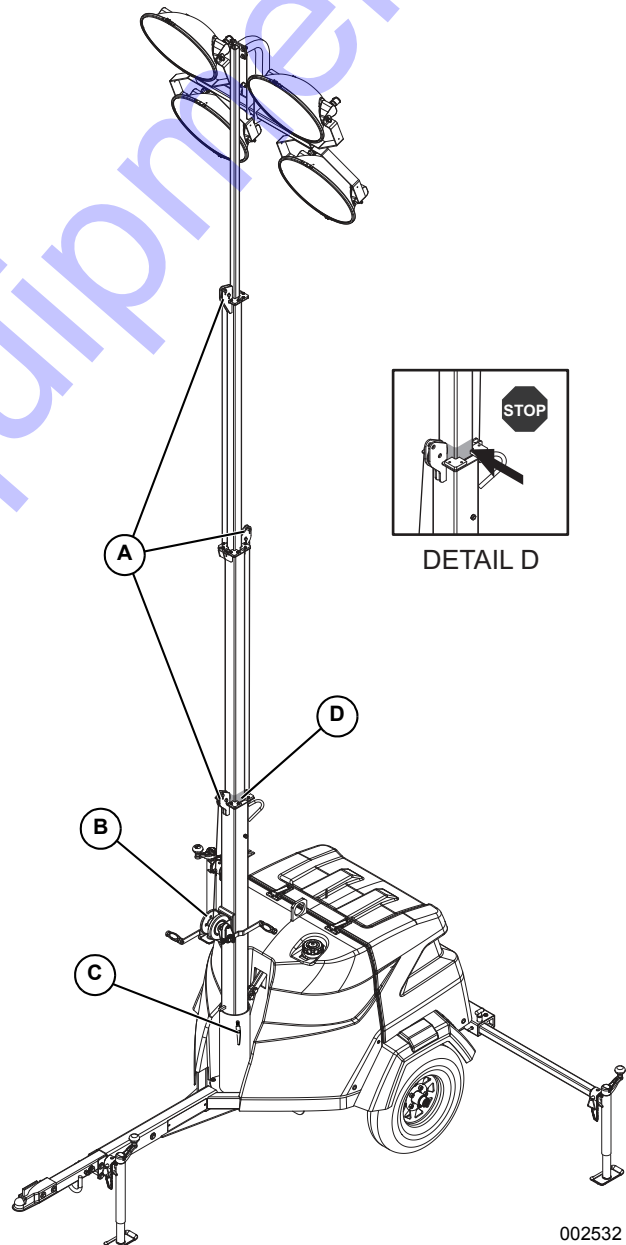

Figure 3-2. Pulley Locations - Manual Winch
2. See Figure 3-2. Inspect the mast cables for excessive wear or damage. Verify the cables are properly centered in each pulley (A). Inspect the electrical cord for damage.
3. Rotate the mast by loosening the mast rotation knob (C) at the bottom of the mast. Turn the mast until the lights face in the desired direction. Tighten the mast rotation knob to secure the mast in position.
4. Using both hands, rotate the winch (B) to slowly extend the mast. Verify the coiled electrical cord is extending at the top sections of the mast. Stop extending the mast when the colored mark (D) on the second mast section is visible as seen in Detail D.